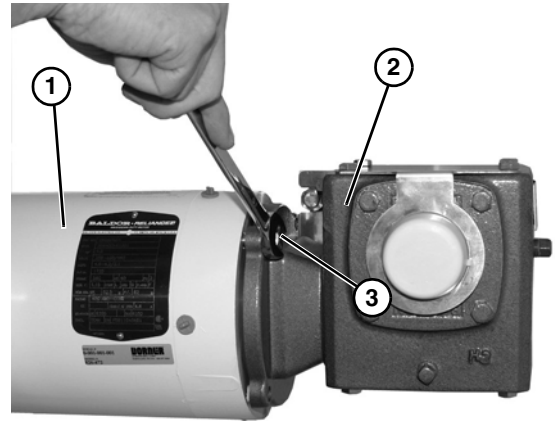

Figure 41
- Secure motor (**Figure 41, item 1**) to gear reducer (**Figure 41, item 2**), with four bolts (**Figure 41, item 3**).
- Tighten four bolts (**Figure 41, item 3**) to 65 in-lbs (7.3 N-m).